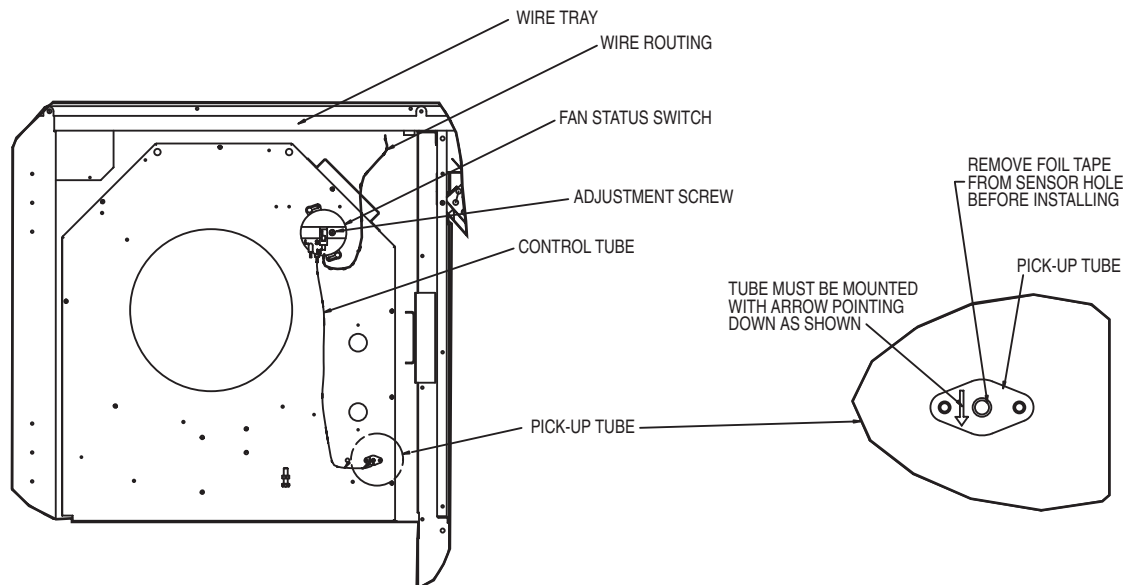

Fig. 1 — Fan Switch Location
**NOTE:** The arrow of the pick-up tube should point down as shown in Fig. 1.